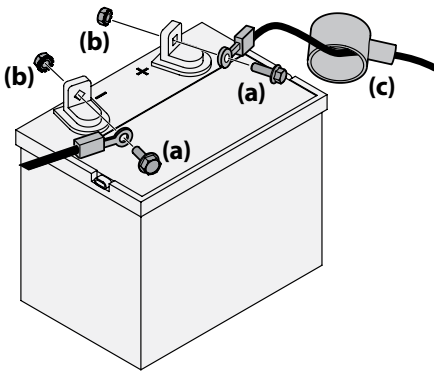

Figure 2-2
- Remove the plastic cover, if present, from the positive battery terminal and attach the red cable to the positive battery terminal (+) with the bolt (a) and hex nut (b). See Figure 2-2.
- Remove the plastic cover, if present, from the negative battery terminal and attach the black cable to the negative battery terminal (-) with the bolt (a) and hex nut (b). See Figure 2-2.